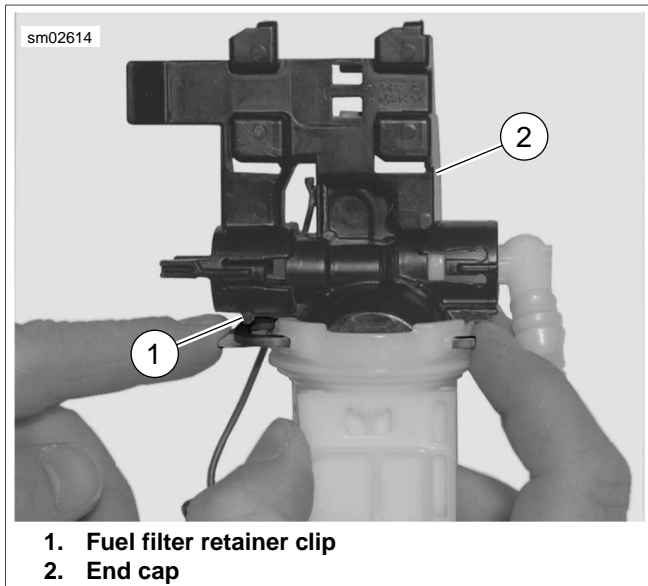
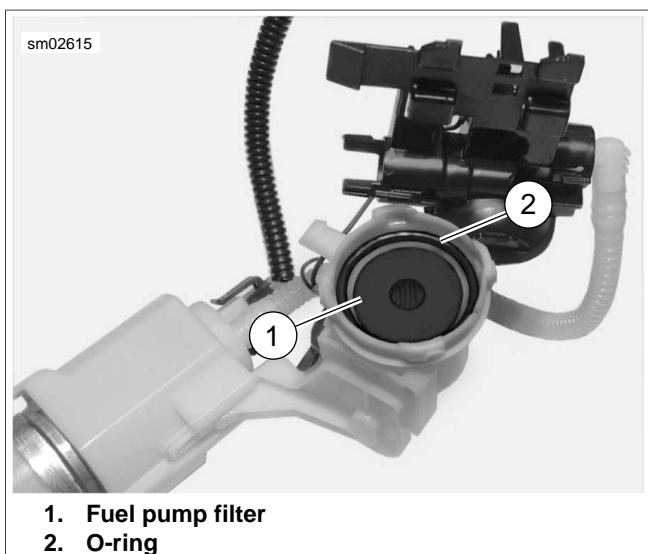

Figure 4-41. Filter Retainer Clip
Figure 4-42. Bail Bracket
1. See Figure 4-41. Depress tab and remove filter retainer clip (1).
2. Separate fuel pump body from end cap (2).
3. See Figure 4-42. Remove O-ring (2).
4. Remove fuel filter (1).
7. See Figure 4-41. Place end cap (2) on fuel pump body.
8. Install fuel filter retainer clip (1).